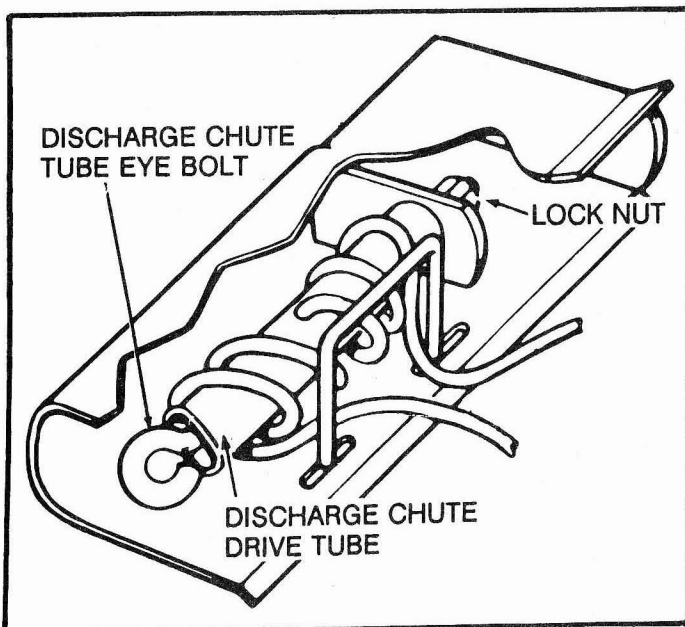

FIG. 28
- If Discharge Chute will not hold its position and tends to rotate, adjust Lock Nut on end of Discharge Chute Tube Eye Bolt. Tighten Lock Nut 1/8 turn and check rotation of Discharge Chute Drive Tube by turning Chute Control Rod. A small amount of resistance should be encountered. Do not over tighten. Tighten until Discharge Chute holds its position. (See Fig. 28)